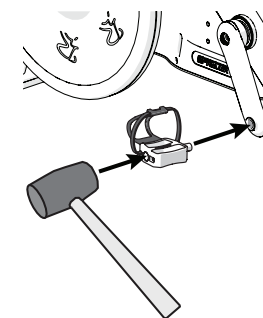

Figure 11
1. Insert a pedal into its corresponding crank arm (Figure 11).
2. Use a rubber mallet to lightly tap the center of the pedal into the crank arm to seat it (Figure 11).